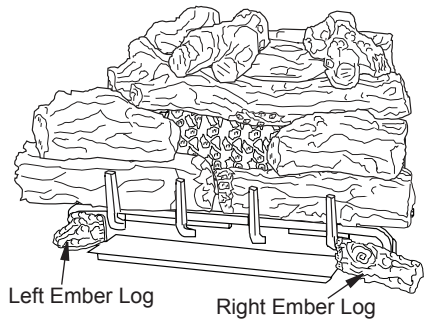

Figure 36 - Installing Ember Logs
- Place the left and right ember logs as shown in Figure 36. Do not place the logs on the ember bed pan they are intended to cover the sheet metal on the front of the base assembly.